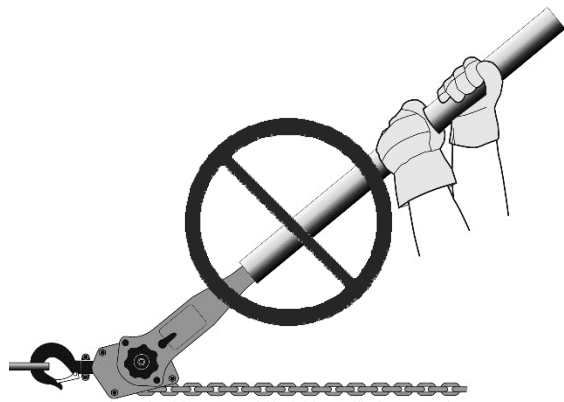

Figure 6
- Do not use any extension on the lever handle. See Figure 6.